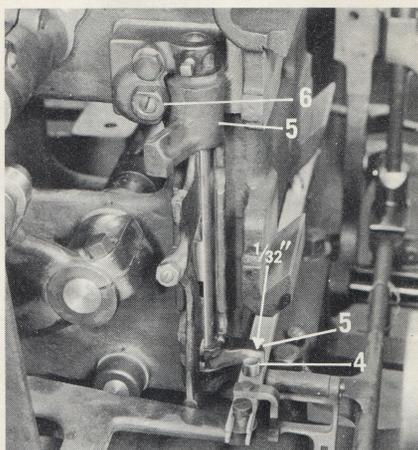

Fig. 6
6) Adjustment of the eccentric stud 4, shown in Figure 6, is made with the starting handle pulled out and vertical lever 5 banking on